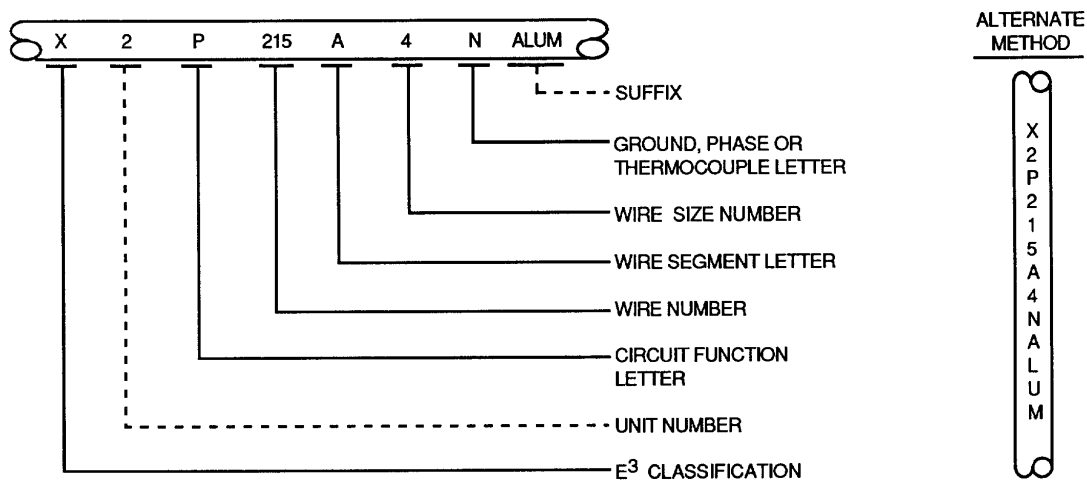

Figure 2. Wire Identification Coding (Except Circuit Function Letters R, S, T and Y)
- b. Circuit function is also indicated by circuit function letter (Figure 2).
7. CIRCUIT FUNCTION LETTER. Letters are used to identify the circuit function (except letters R, S, T and Y) specified in Table 2 (Figure 2).
15. **ALUMINUM WIRE IDENTIFIER.** The letters ALUMINUM or ALUM will be added to the wire identification code of aluminum wire (Figure 2).